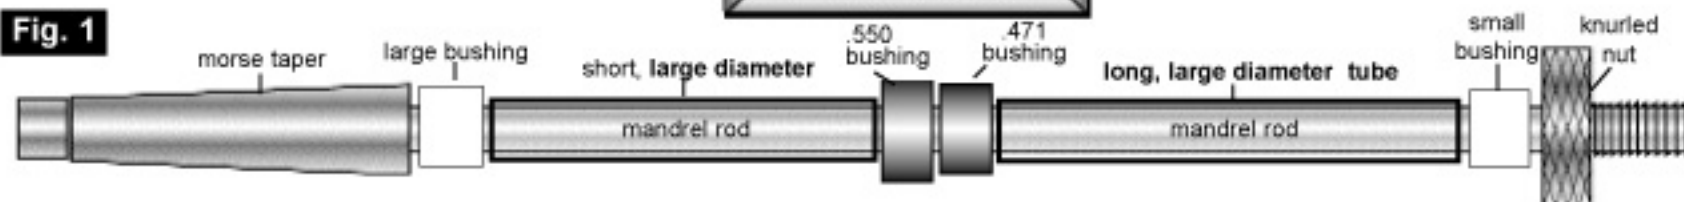

Fig. 1
- 5) Turn on an Amero-classic mandrel with bushing set 340, which consists of 4 bushings. Arrange bushings and tubes as shown. (Fig. 1)